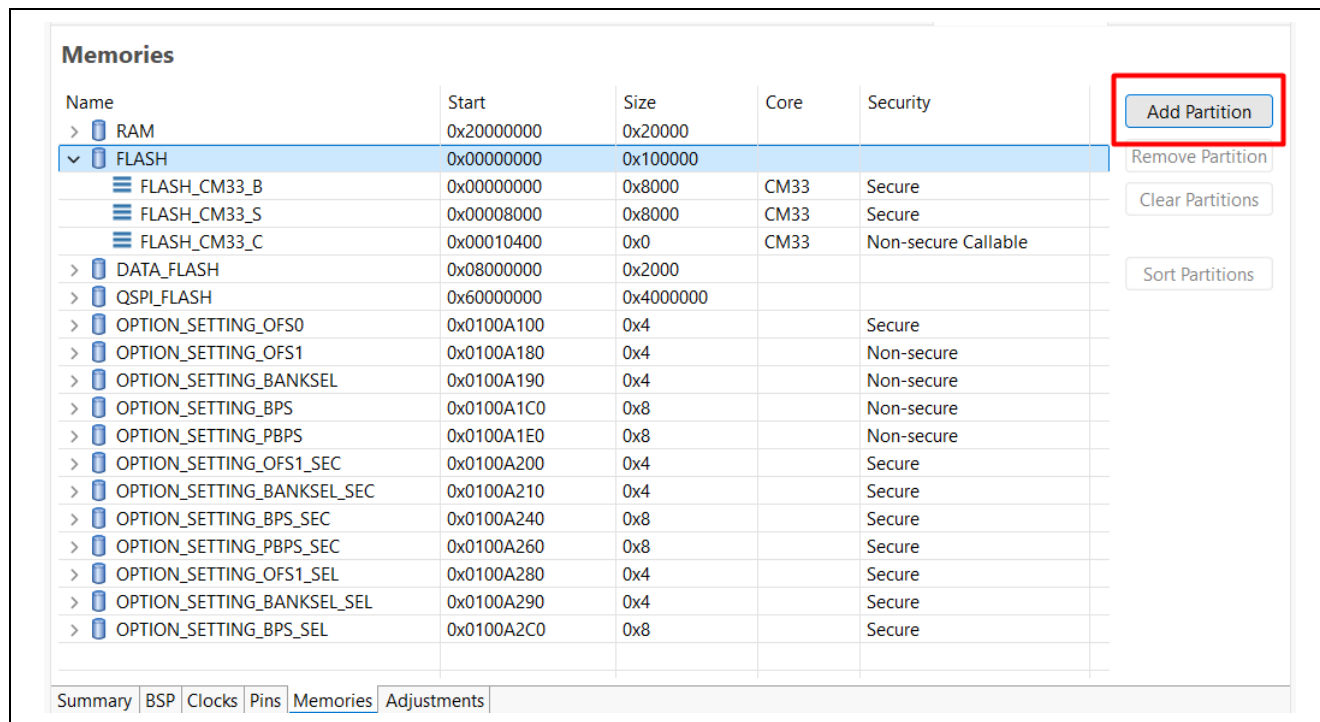

Figure 7. Example of Add Partition in Memories Tab
2. Click **Add Partition**, as shown in Figure 7. The **New Partition** dialog appears.